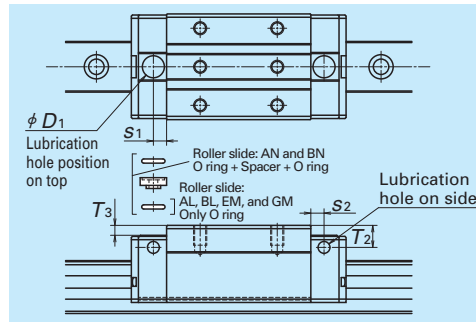

Fig.13 Top and side lubrication hole positions
- A lubrication hole can also be provided on the top of the end cap. Fig.13, Table 8 and Table 9 show the mounting position. A spacer is required for AN and BN shape roller slides. The spacers are available from NSK.